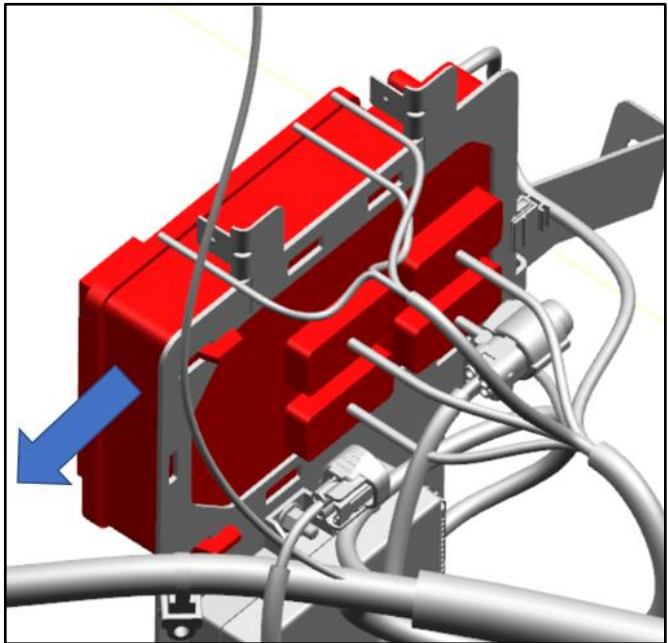

Figure 10
18. Move the fuse box as shown to release it from the bracket for the rear fuse box. (Refer to Figure 10.)